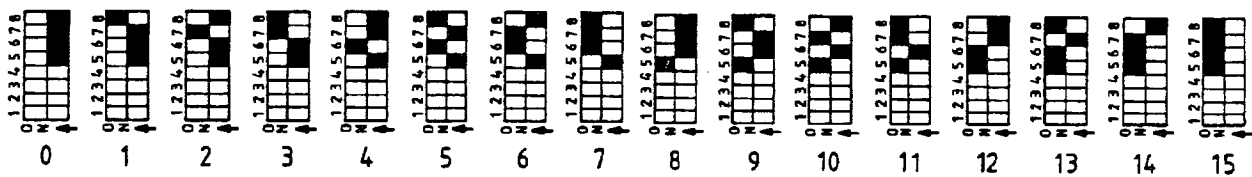

Fig. 12
* Set the device (precalibration) number to the settings per figure 12.